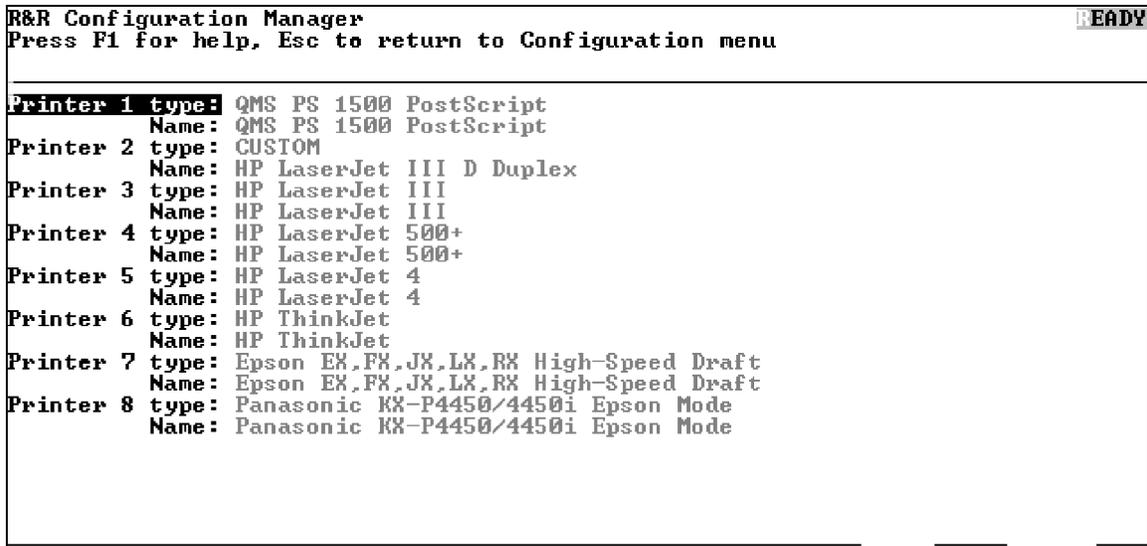

Figure 5-118. The Printer Configuration dialog.
4. Press <P> to execute the Printers option. The Printer Configuration dialog appears on your screen as shown in Figure 5-118.